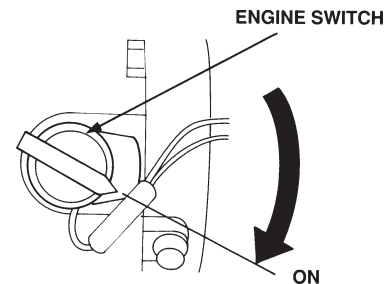

Figure 13. Engine ON/OFF Switch (ON Position)
5. Place the **engine ON/OFF switch** (Figure 13) in the "ON" position.